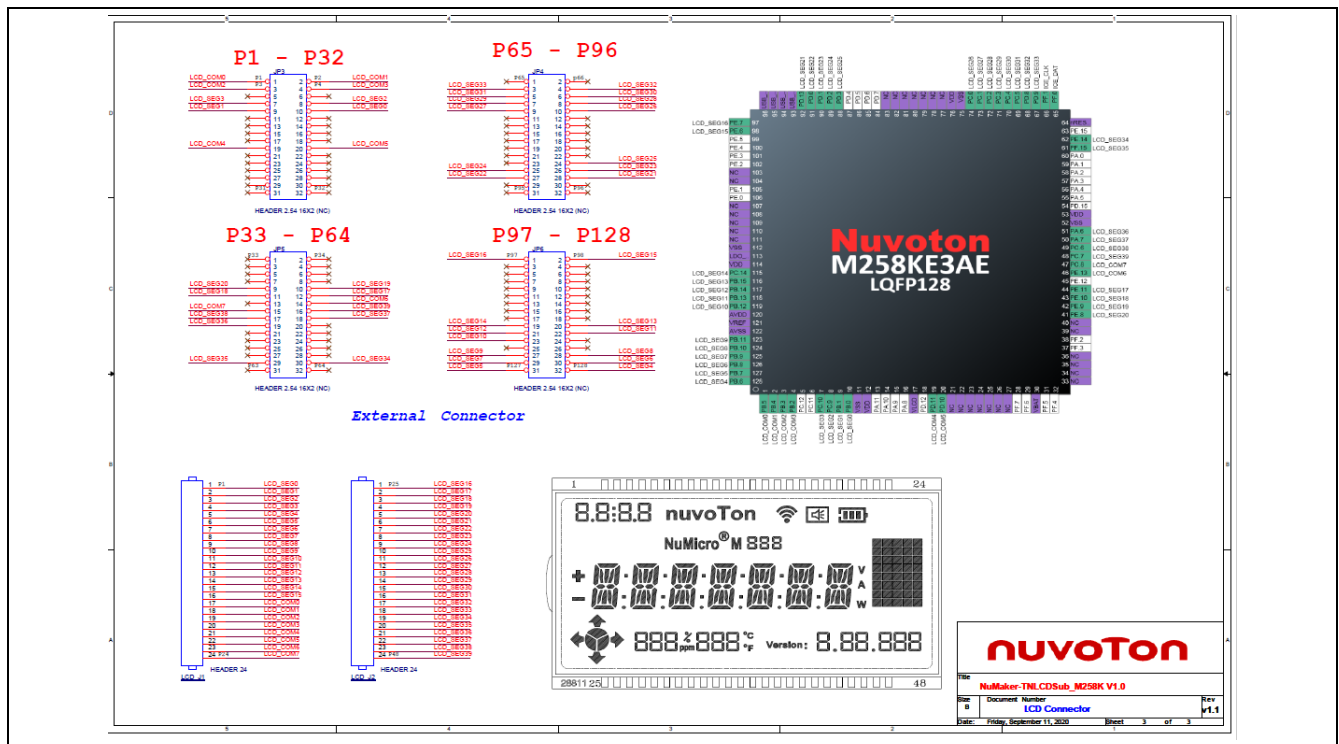
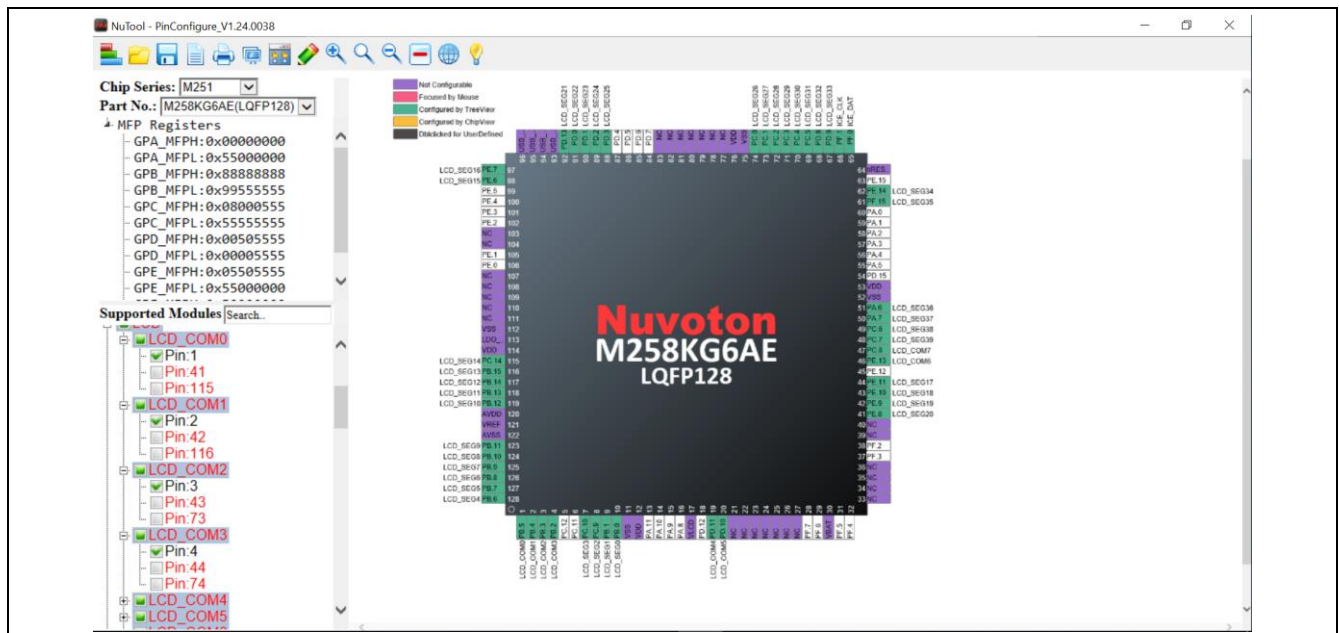

Figure 1-1 NuMaker-M258KG Schematic
Figure 1-2 Config LCD Pin in NuTool-PinConfigure
1. Open NuTool-PinConfigure, and choose the target MCU series. Set the LCD pin according to the schematic file of NuMaker-M258KG, as shown in Figure 1-1 and Figure 1-2.